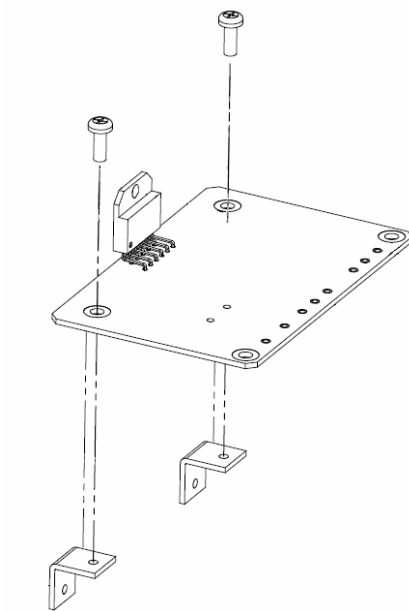

Figure 14-Showing method of attaching brackets to the PCB
1. You'll start with one small bit of mechanical assembly as shown in Figure 14. Use two #6-32x1/4" Phillips head screws (they have captive lock-washers) to fasten two brackets to the solder side of the amplifier PC board. Watch the bracket orientation, and don't install any more fasteners at this time!
3. Assemble the LM3886 and circuit board to the heat-sink plate as shown in Figure 14, using the 6-32 hardware, just finger-tight.